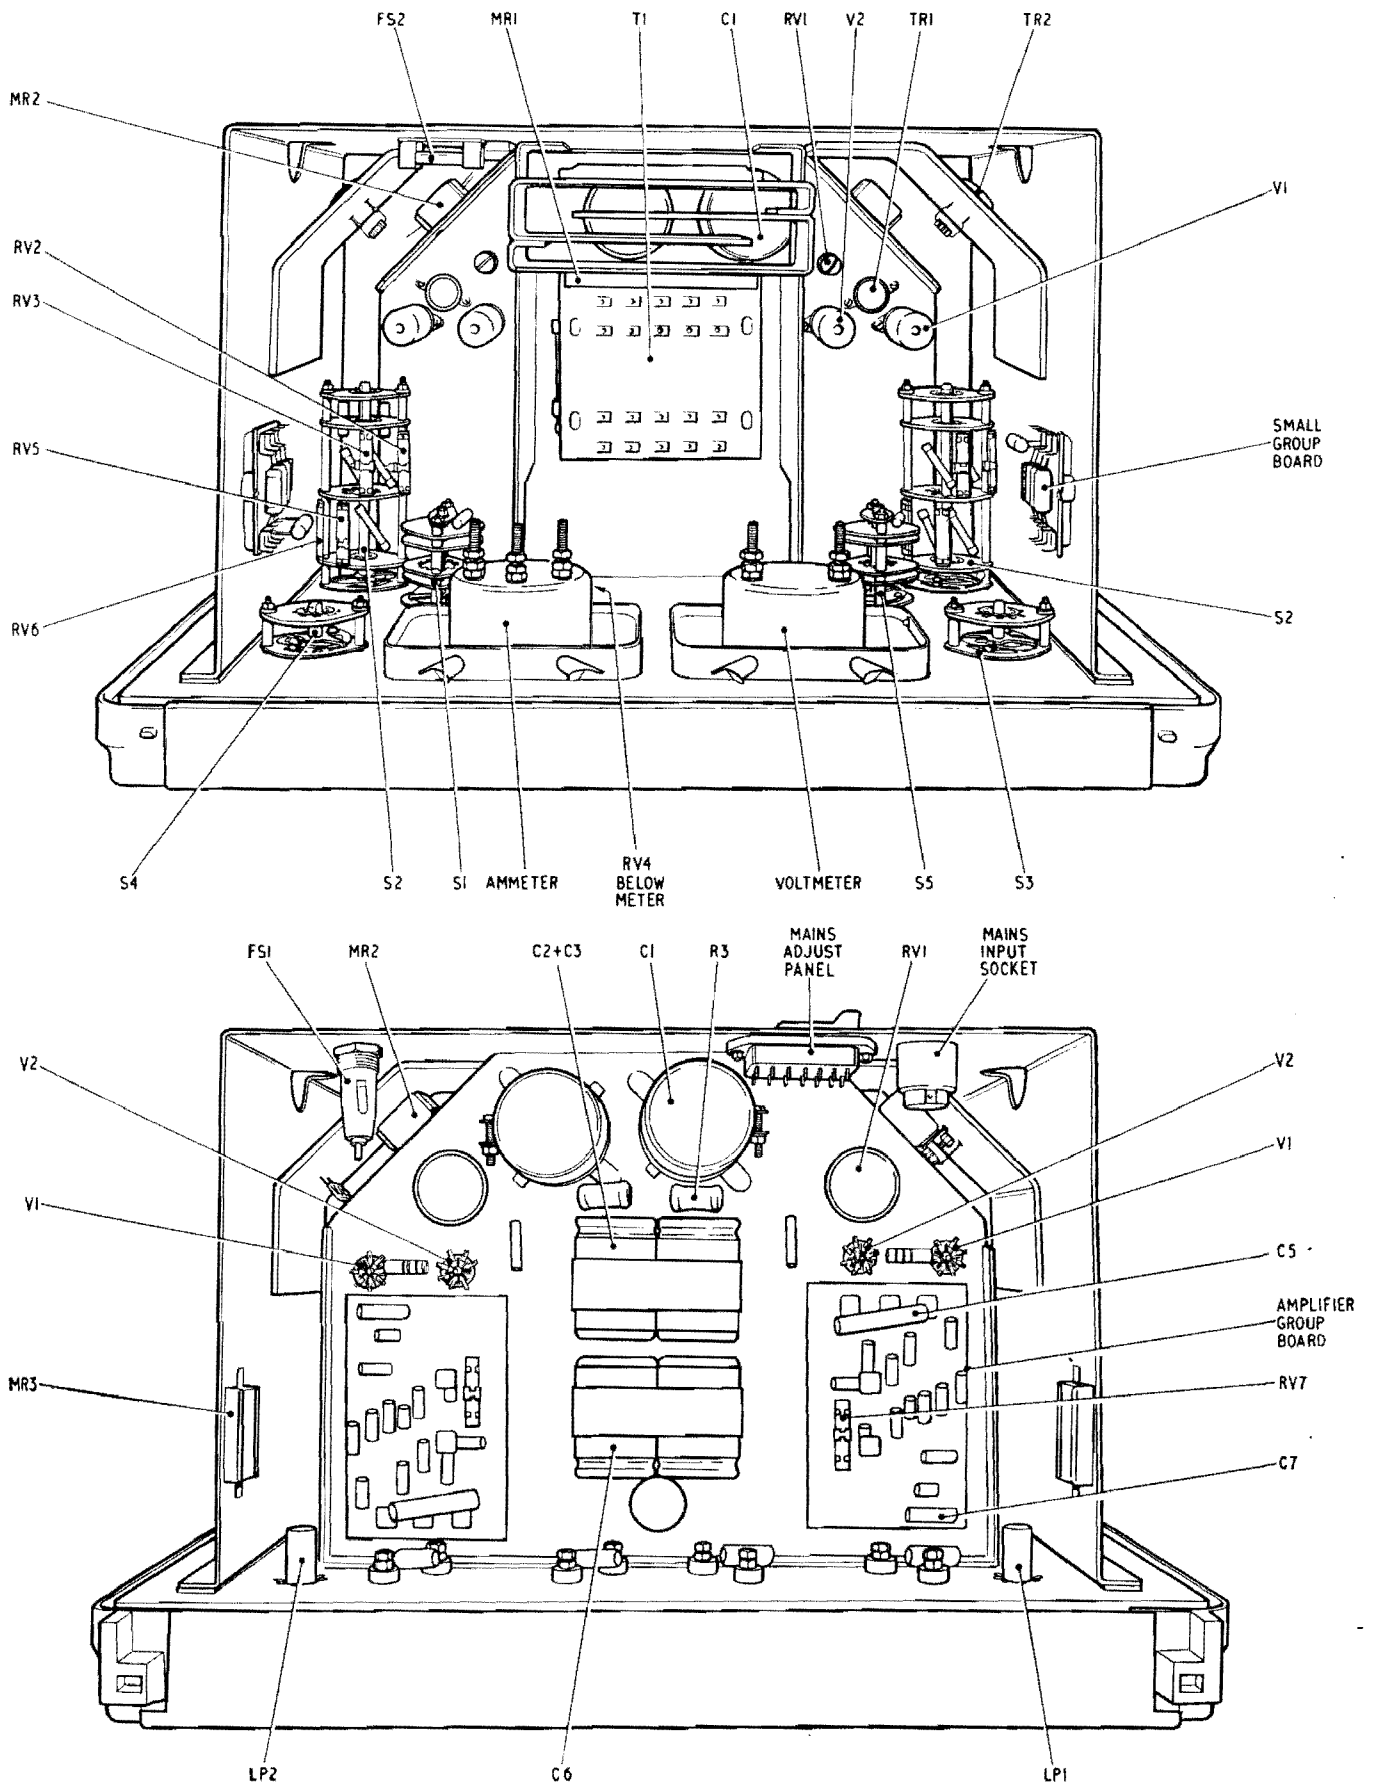

FIG. 1 COMPONENT LOCATION DIAGRAM
To obtain access to the internal components, place the instrument face downwards on a flat surface, remove the four retaining screws in the back, and lift off the case. *Fig. 1* shows the location of the components on the chassis assembly.
6. Set the variable control to '0' and adjust RV2 (see *fig. 1*) with an insulated rod until the voltmeter indicates exactly 20V.